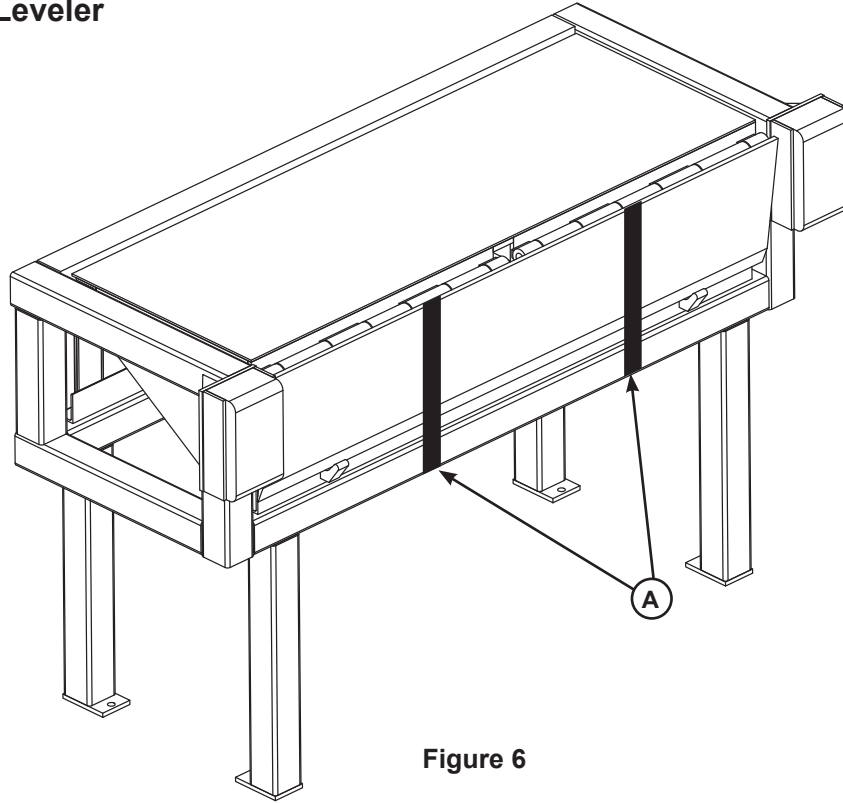

Figure 6
Mini Ramp levelers are available with a free standing frame as shown in **Figure 6**. To install the free-standing frame model, follow the instructions below:
Poweramp dock levelers are shipped with bands (A) around the platform lip and leveler frame (see Figure 6).